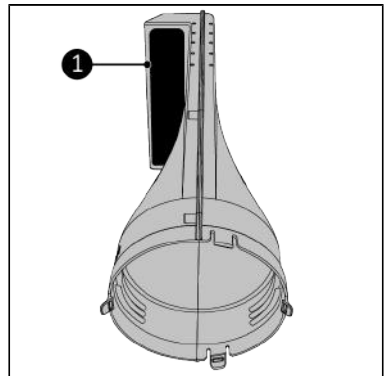

Figure 87.
4. Place the Way-out in front of you. Make sure the round opening is facing towards you (Figure 87).
5. Make sure the air outlet (Figure 87, pos. 1) is pointing to the left.